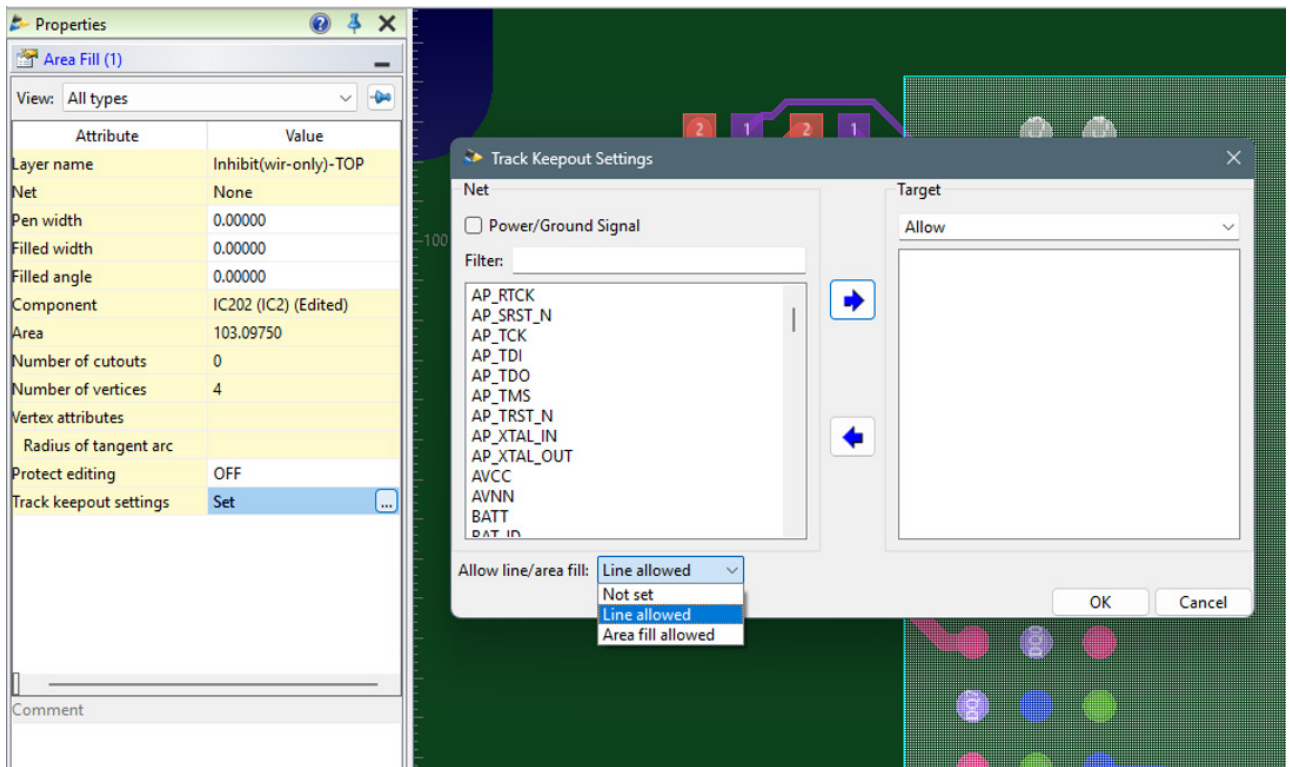

Figure 2. Define track keepout settings to permit either lines (traces) or area fill (copper fill).
**Evaluation boards vs. bring-up boards.** Printed circuit designers enable the test team by creating dedicated evaluation boards for individual chips and sprawling bring-up boards for characterizing entire systems (Figure 2). Neither of these has anything to do with the form-factor production boards. What they do is give them confidence in their component choices, thereby derisking the whole program.
Figure 2. Notice the slot in the middle of this bring-up board. There is a test mule that is connected to the bring-up board through that slot. This minimizes trace length from the device to the test circuits. (Source: Author)
Figure 4. This trapezoid-style hook may seem a bit much, but it helps the test engineer anchor the meter to the probe point by clamping onto the loop. That leaves both hands free to take measurements. Similar test hooks are scattered around in Figure 2 and Figure 5. (Source: Author)
The Track Keepout feature works by combining designated keepout layers with configurable keepout rules. In CR-8000 Design Force, PCB designers define the keepout area and specify whether lines or area fills are permitted within that region (Figure 2).